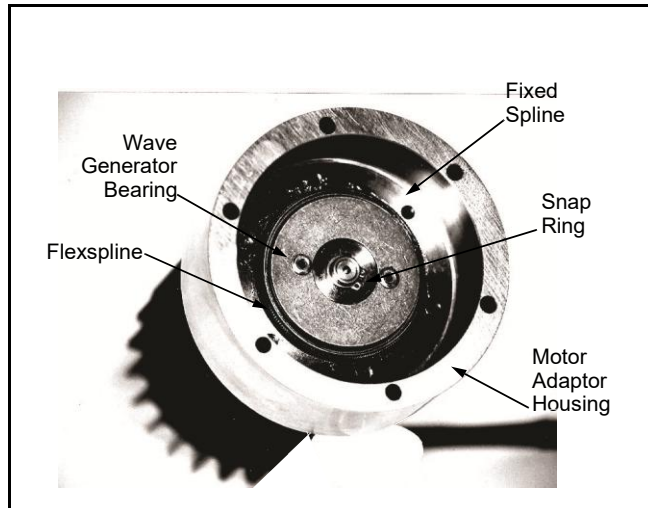

Figure 13-10 **Open End of the Motor Housing**
4. Viewing the open end of the motor adaptor housing, remove the snap-ring from the motor shaft. See Figure 13-10.
7. The fixed spline (refer to Figure 13-10) will still be attached to the motor adapter housing. Visually inspect the fixed spline, making sure that there are no obvious signs of broken teeth, unusual wear patterns, or foreign particles in the grease.
14. Set the motor assembly with the motor adapter housing facing up, as shown in Figure 13-10.
17. Grasp the wave generator bearing in one hand and, looking straight down at the motor shaft and its key, carefully slide the bearing and spline over the center shaft. The orientation of the bearing is very important. As shown in Figure 13-10, the two rivets in the bearing should be facing out and the uncovered ball bearings should be in against the motor.